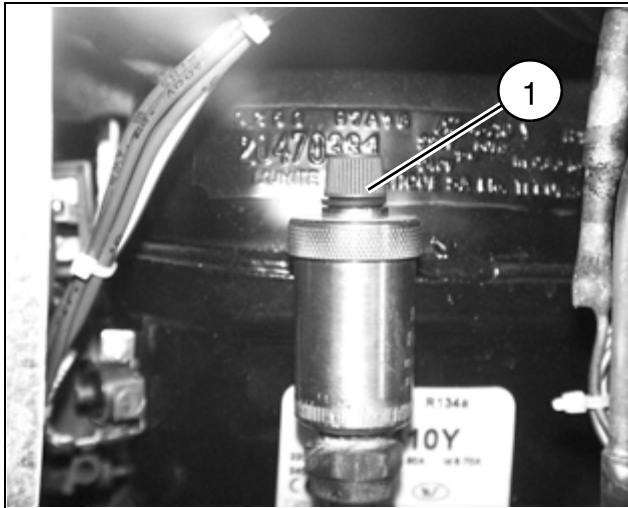

Fig. 31: Air bleeder valve
- Open the air bleeder valve (cap) in the cooling unit two turns (1/Fig. 31 / p. 29) (the valve must always be open).